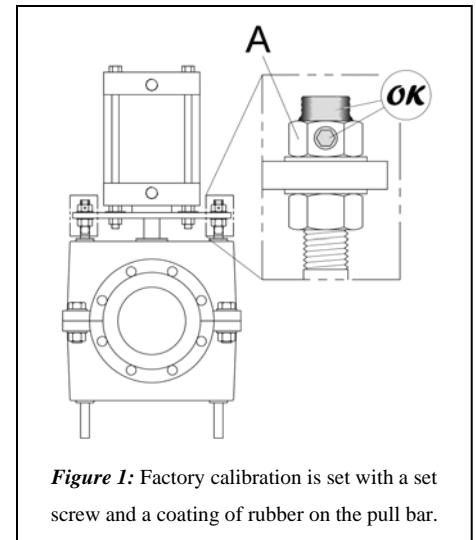

Figure 1: Factory calibration is set with a set screw and a coating of rubber on the pull bar.
The RF Valve® is factory calibrated to close with the amount of crush necessary to seal against the applicable line pressure. After calibration, a set screw is inserted into each of the A-nuts and a coating of blue rubber is applied to the pull bar threads above the A-nut (Fig. 1).
- it appears the A-nuts have been disturbed (for example: missing set screw and/or missing blue rubber coating). See Fig. 1.